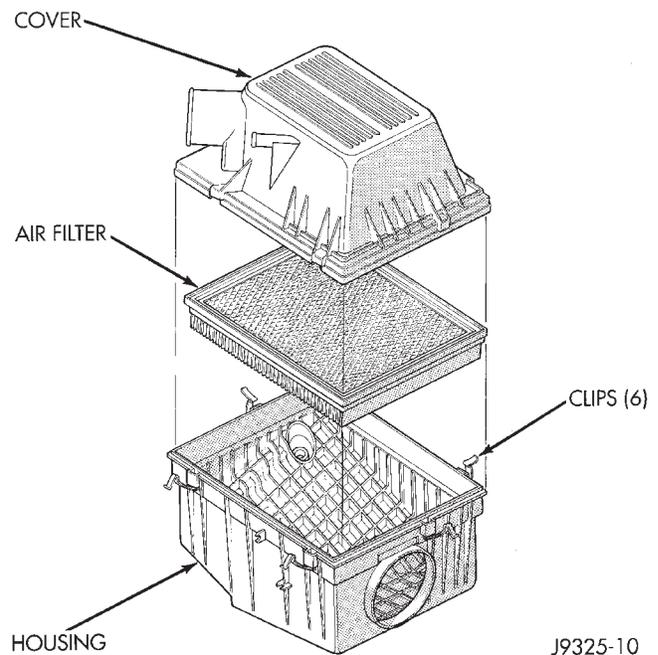

Fig. 86 Air Cleaner Element Removal/Installation
- (1) Pry back the six clips retaining the air cleaner cover to the air cleaner housing (Fig. 86).
- (2) Lift the cover up and position to the side.
- (3) Remove air cleaner element.
- (4) Clean the inside of air cleaner housing before installing new element.
- (5) Reverse the preceding operation for installation. Be sure the air cleaner cover is properly seated to air cleaner housing.